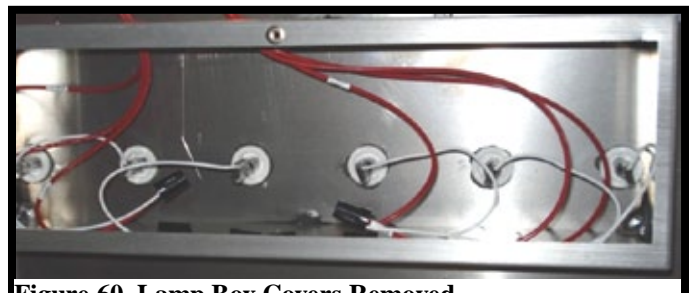

Figure 60. Lamp Box Covers Removed.
2. Remove lamp box covers from both sides of the zone requiring lamp replacement (Figure 60).